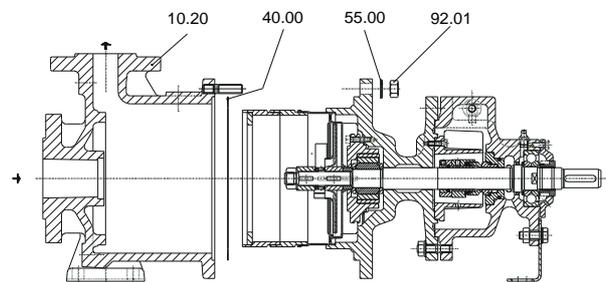

Fig.1
3. Withdraw complete back pull-out unit from pump housing 10.20 and remove joint ring 40.00 (fig.1)